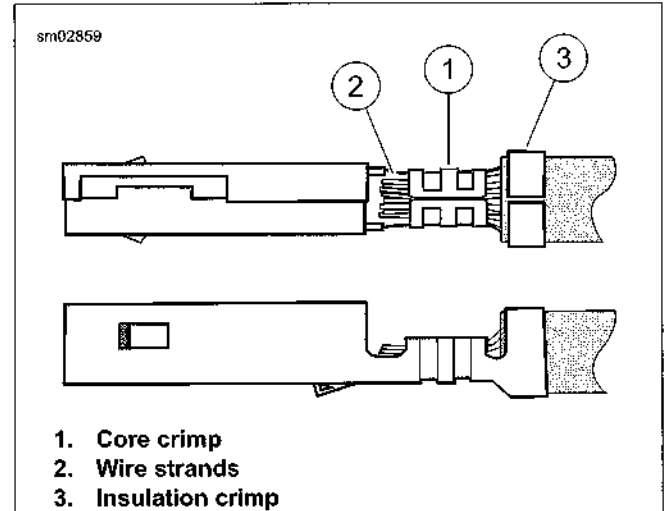

Figure A-58. Terminal Crimp
- a. See Figure A-58. The core tails should be creased into the wire strands at the core crimp (1).
- b. Strands (2) of wire should be visible beyond the core crimp but not forward into the terminal shell.
- c. The insulation tails should be folded into the insulation (3) without piercing or cutting the insulation.